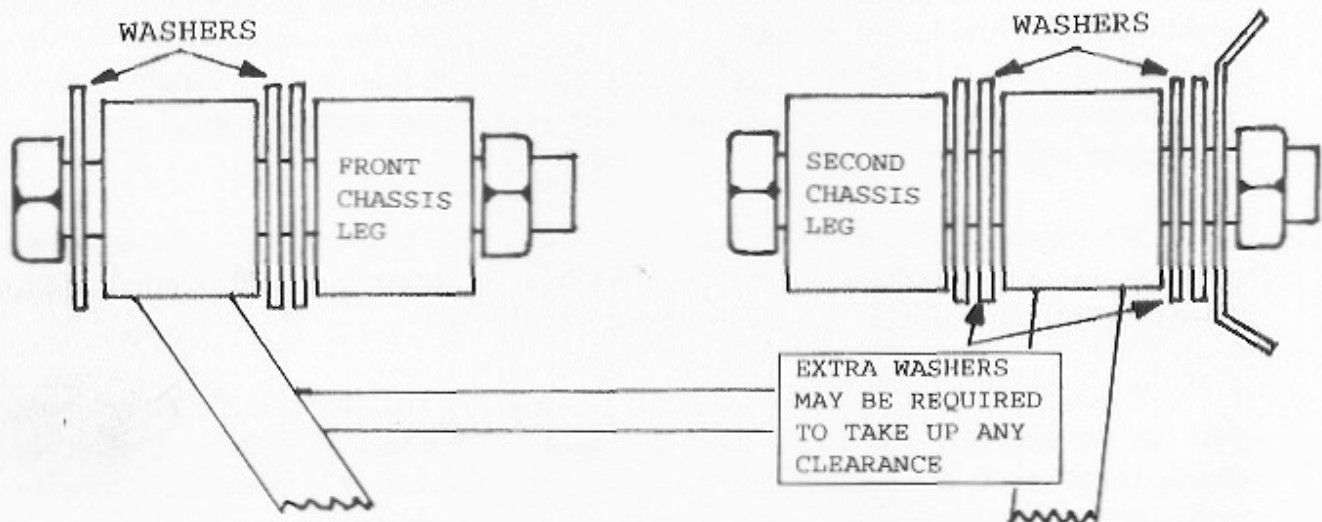

Figure 5A.3.2 Washer Usage - Left Hand Lower Wishbone
3.1 The front lower wishbones are handed, and are assembled with the longer arm forward and the circlip downward, as per Fig 5A.1. Each wishbone is fitted with a 1 3/16" OD, 5/8" ID spherical joint which is held in place with a circlip. Take care to ensure that this circlip is correctly located.
3.2 Fit the rear leg of the wishbone in place through the slot in the lower bodywork immediately behind the vertical chassis member and attach using a 1/2" x 4" bolt, plain 1 1/8" washers and nyloc, the bolt facing backward with two 3mm thick washers on either side of the wishbone as in figure 5A.3.2.
1.1 De Dion cars are fitted with a revised front suspension incorporating double wishbones to provide better Castor angle control and thus improve the Seven's roadholding. Please refer to figure 5A.1 at the rear of this section which shows a general overview of this suspension layout. However before starting a small amount of preparation will be necessary.